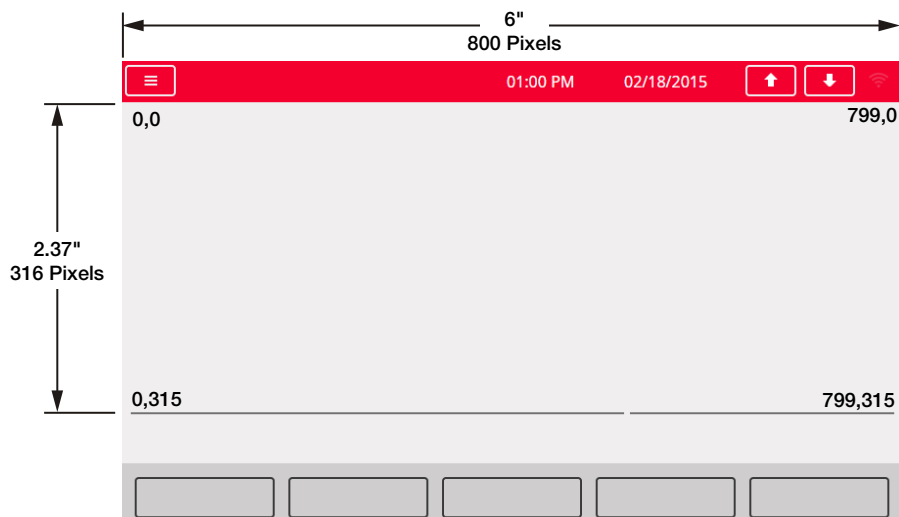

Figure 14-2. Screen Location Pixel Values
- Some widget types require that the location or size of the widget be specified, in pixels. Figure 14-2 shows the pixel counts (133.33 pixels per inch) used to specify the pixel location on the display.